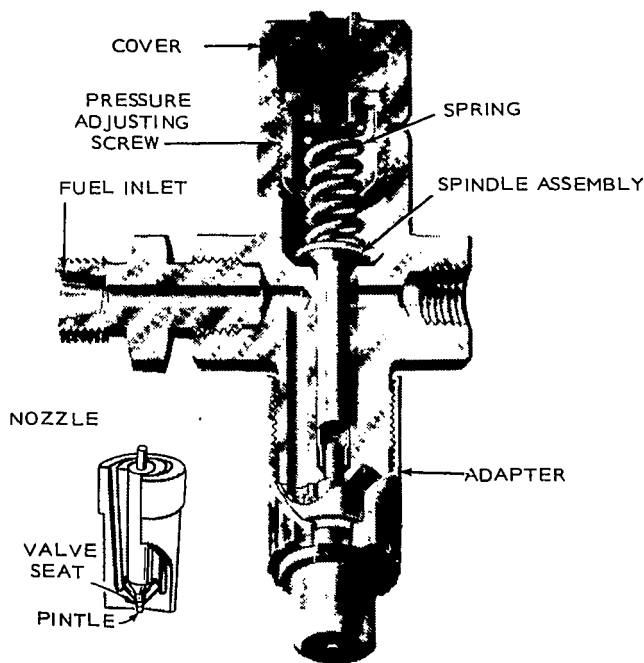

FIGURE 12. INJECTOR NOZZLE AND HOLDER ASSEMBLY
1. High pressure fuel from the injection pump enters the fuel inlet stud and flows down drilled passages in the body of nozzle holder, Figure 12.